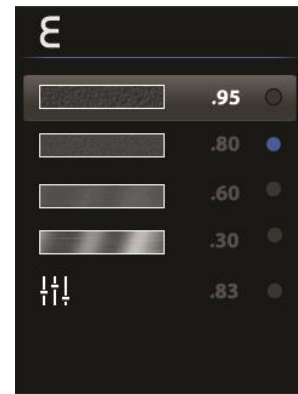

Fig 9-6 Selecting an Emissivity Preset
3. PRESET EMISSIVITY SELECTION: Use the arrow buttons to scroll to one of the preset emissivity factors (95, 80, 60, 30) as shown in Fig 9-6 and then press  to confirm the selection. The meter will return to the Settings Menu.